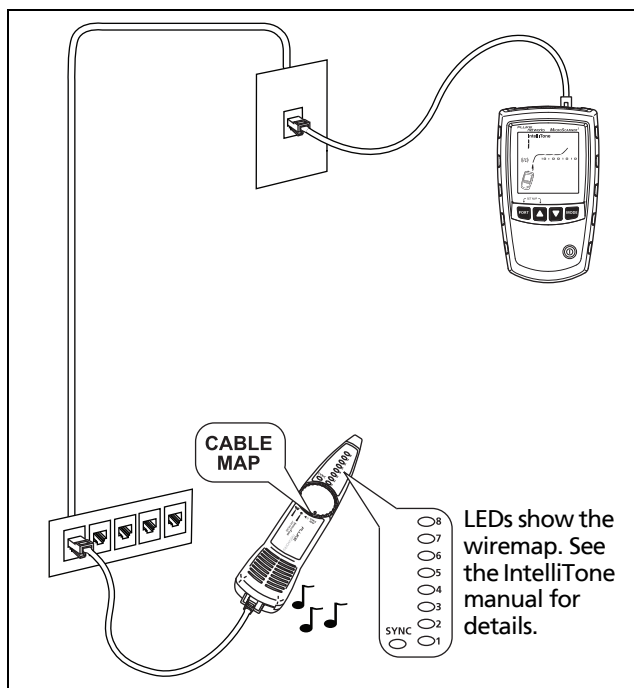

Figure 36. Using the Toner with the IP200 IntelliTone Cable Map Function
- 3 Connect the tester and probe to the cabling as shown in Figure 36.
- 4 Press **▼** or **⌂** until (🎵) appears on the display. IntelliTone mode is indicated by **IntelliTone** and a scrolling pattern of 1s and 0s on the display. See Figure 36.